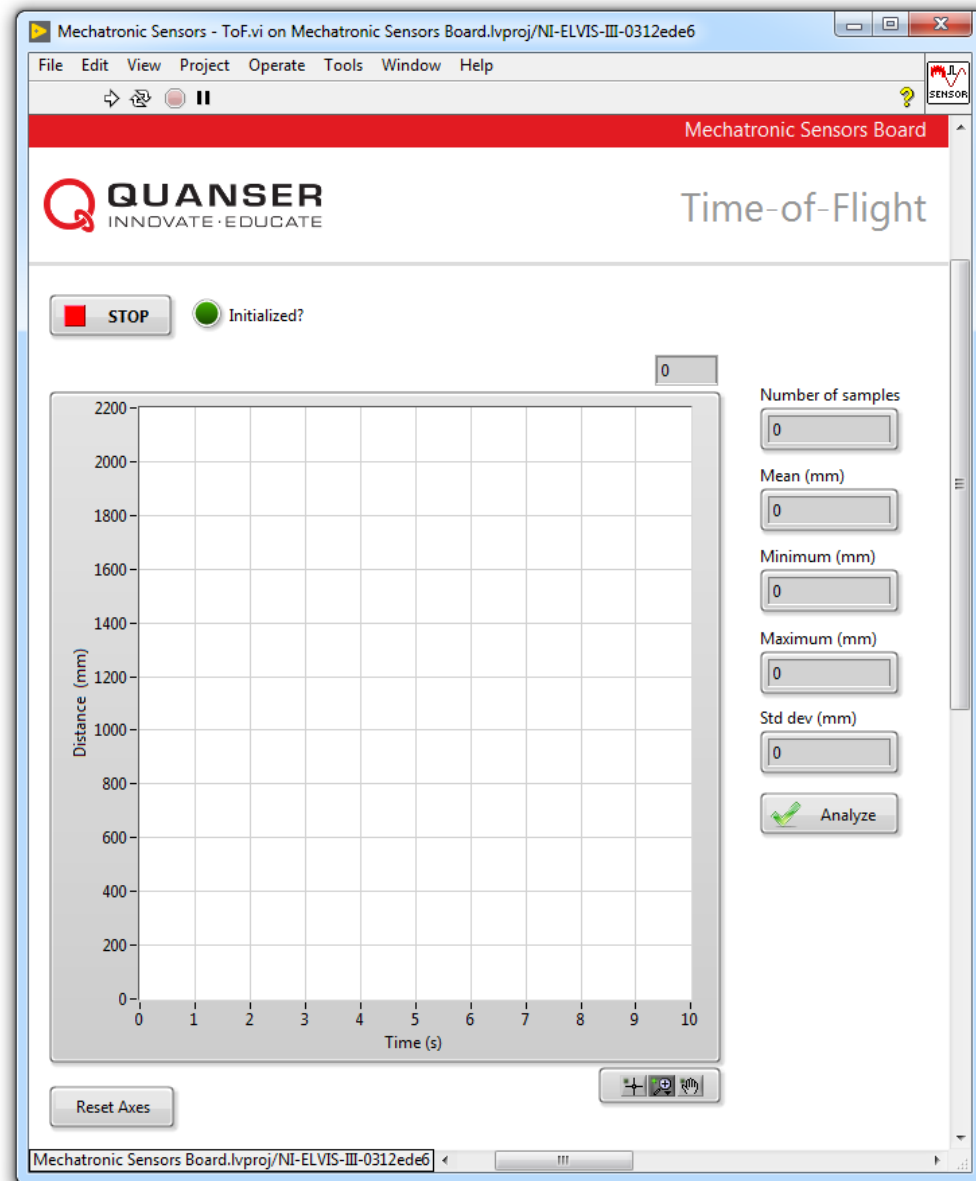

Figure 2: VI for collecting data from the ToF sensor
The Virtual Instrument (VI) used to collect data from the ToF sensor is shown in Figure 2.